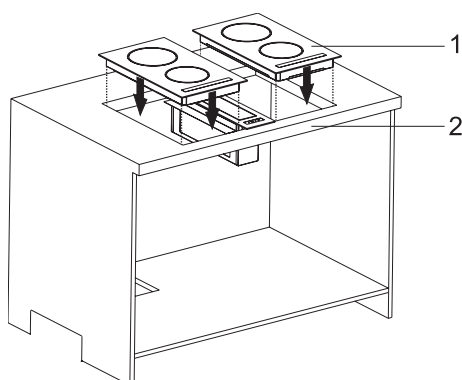

Fig. 28
9. → Insert the hobs on the kitchen counter (Fig. 28).